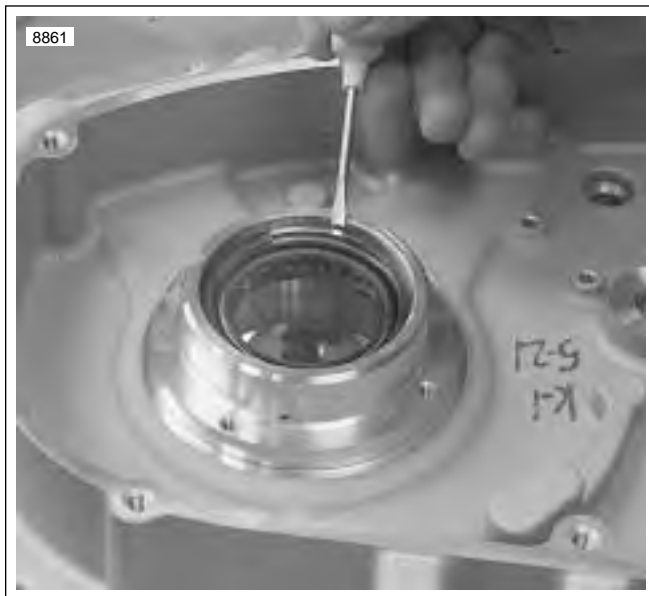

Figure 3-139. Sprocket Shaft Seal Retaining Ring
4. See Figure 3-139. Remove sprocket shaft oil seal retaining ring.